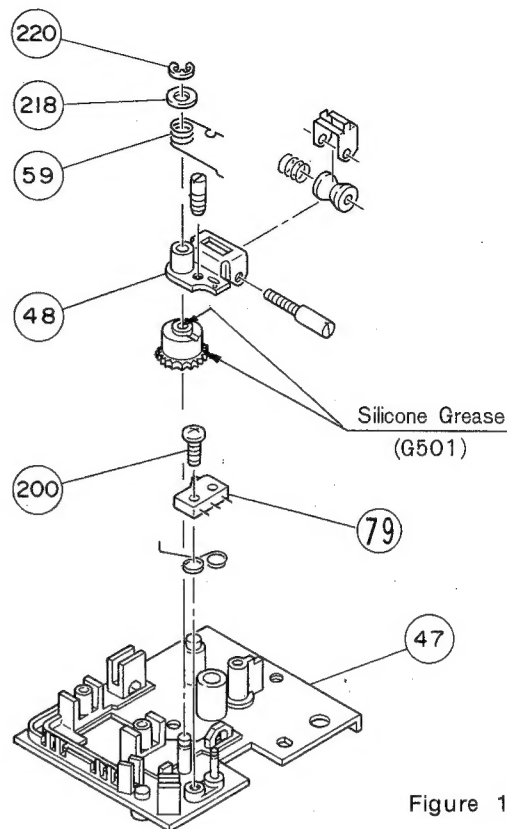

Figure 10
1. Remove the E type Washer (220) 2φ on Bracket K (47).
2. Remove the Washer (218) and Spring (59).
3. Remove the Bracket (48).
4. Remove the Screw (200) (Fig. 10).